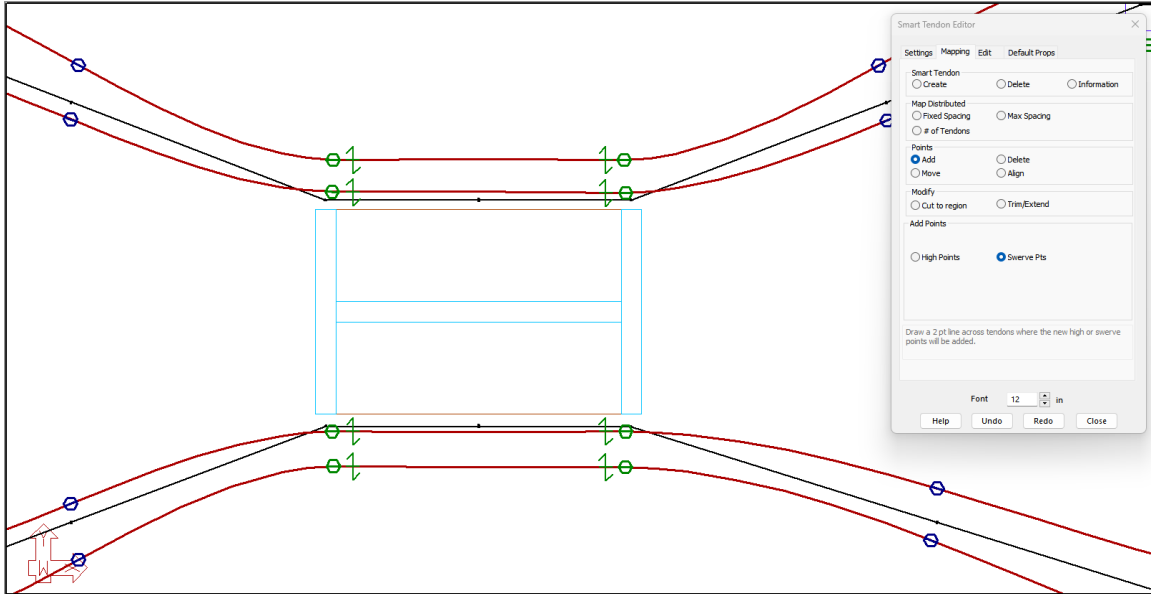

FIGURE 9-66
- Repeat the same for the right side of this span. When completed, these tendons should look as shown in **FIGURE 9-66**.